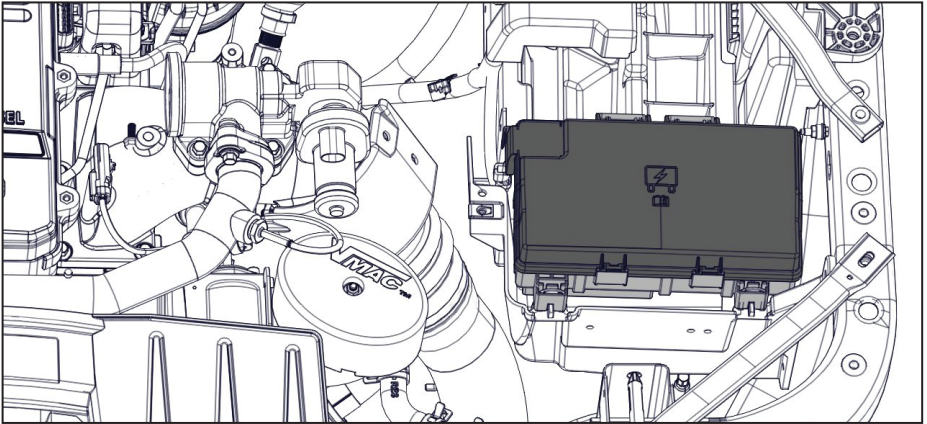

Figure 37 — Locate PDC
- Locate the Power Distribution Center (PDC) fuse box under hood of the vehicle (Figure 37).